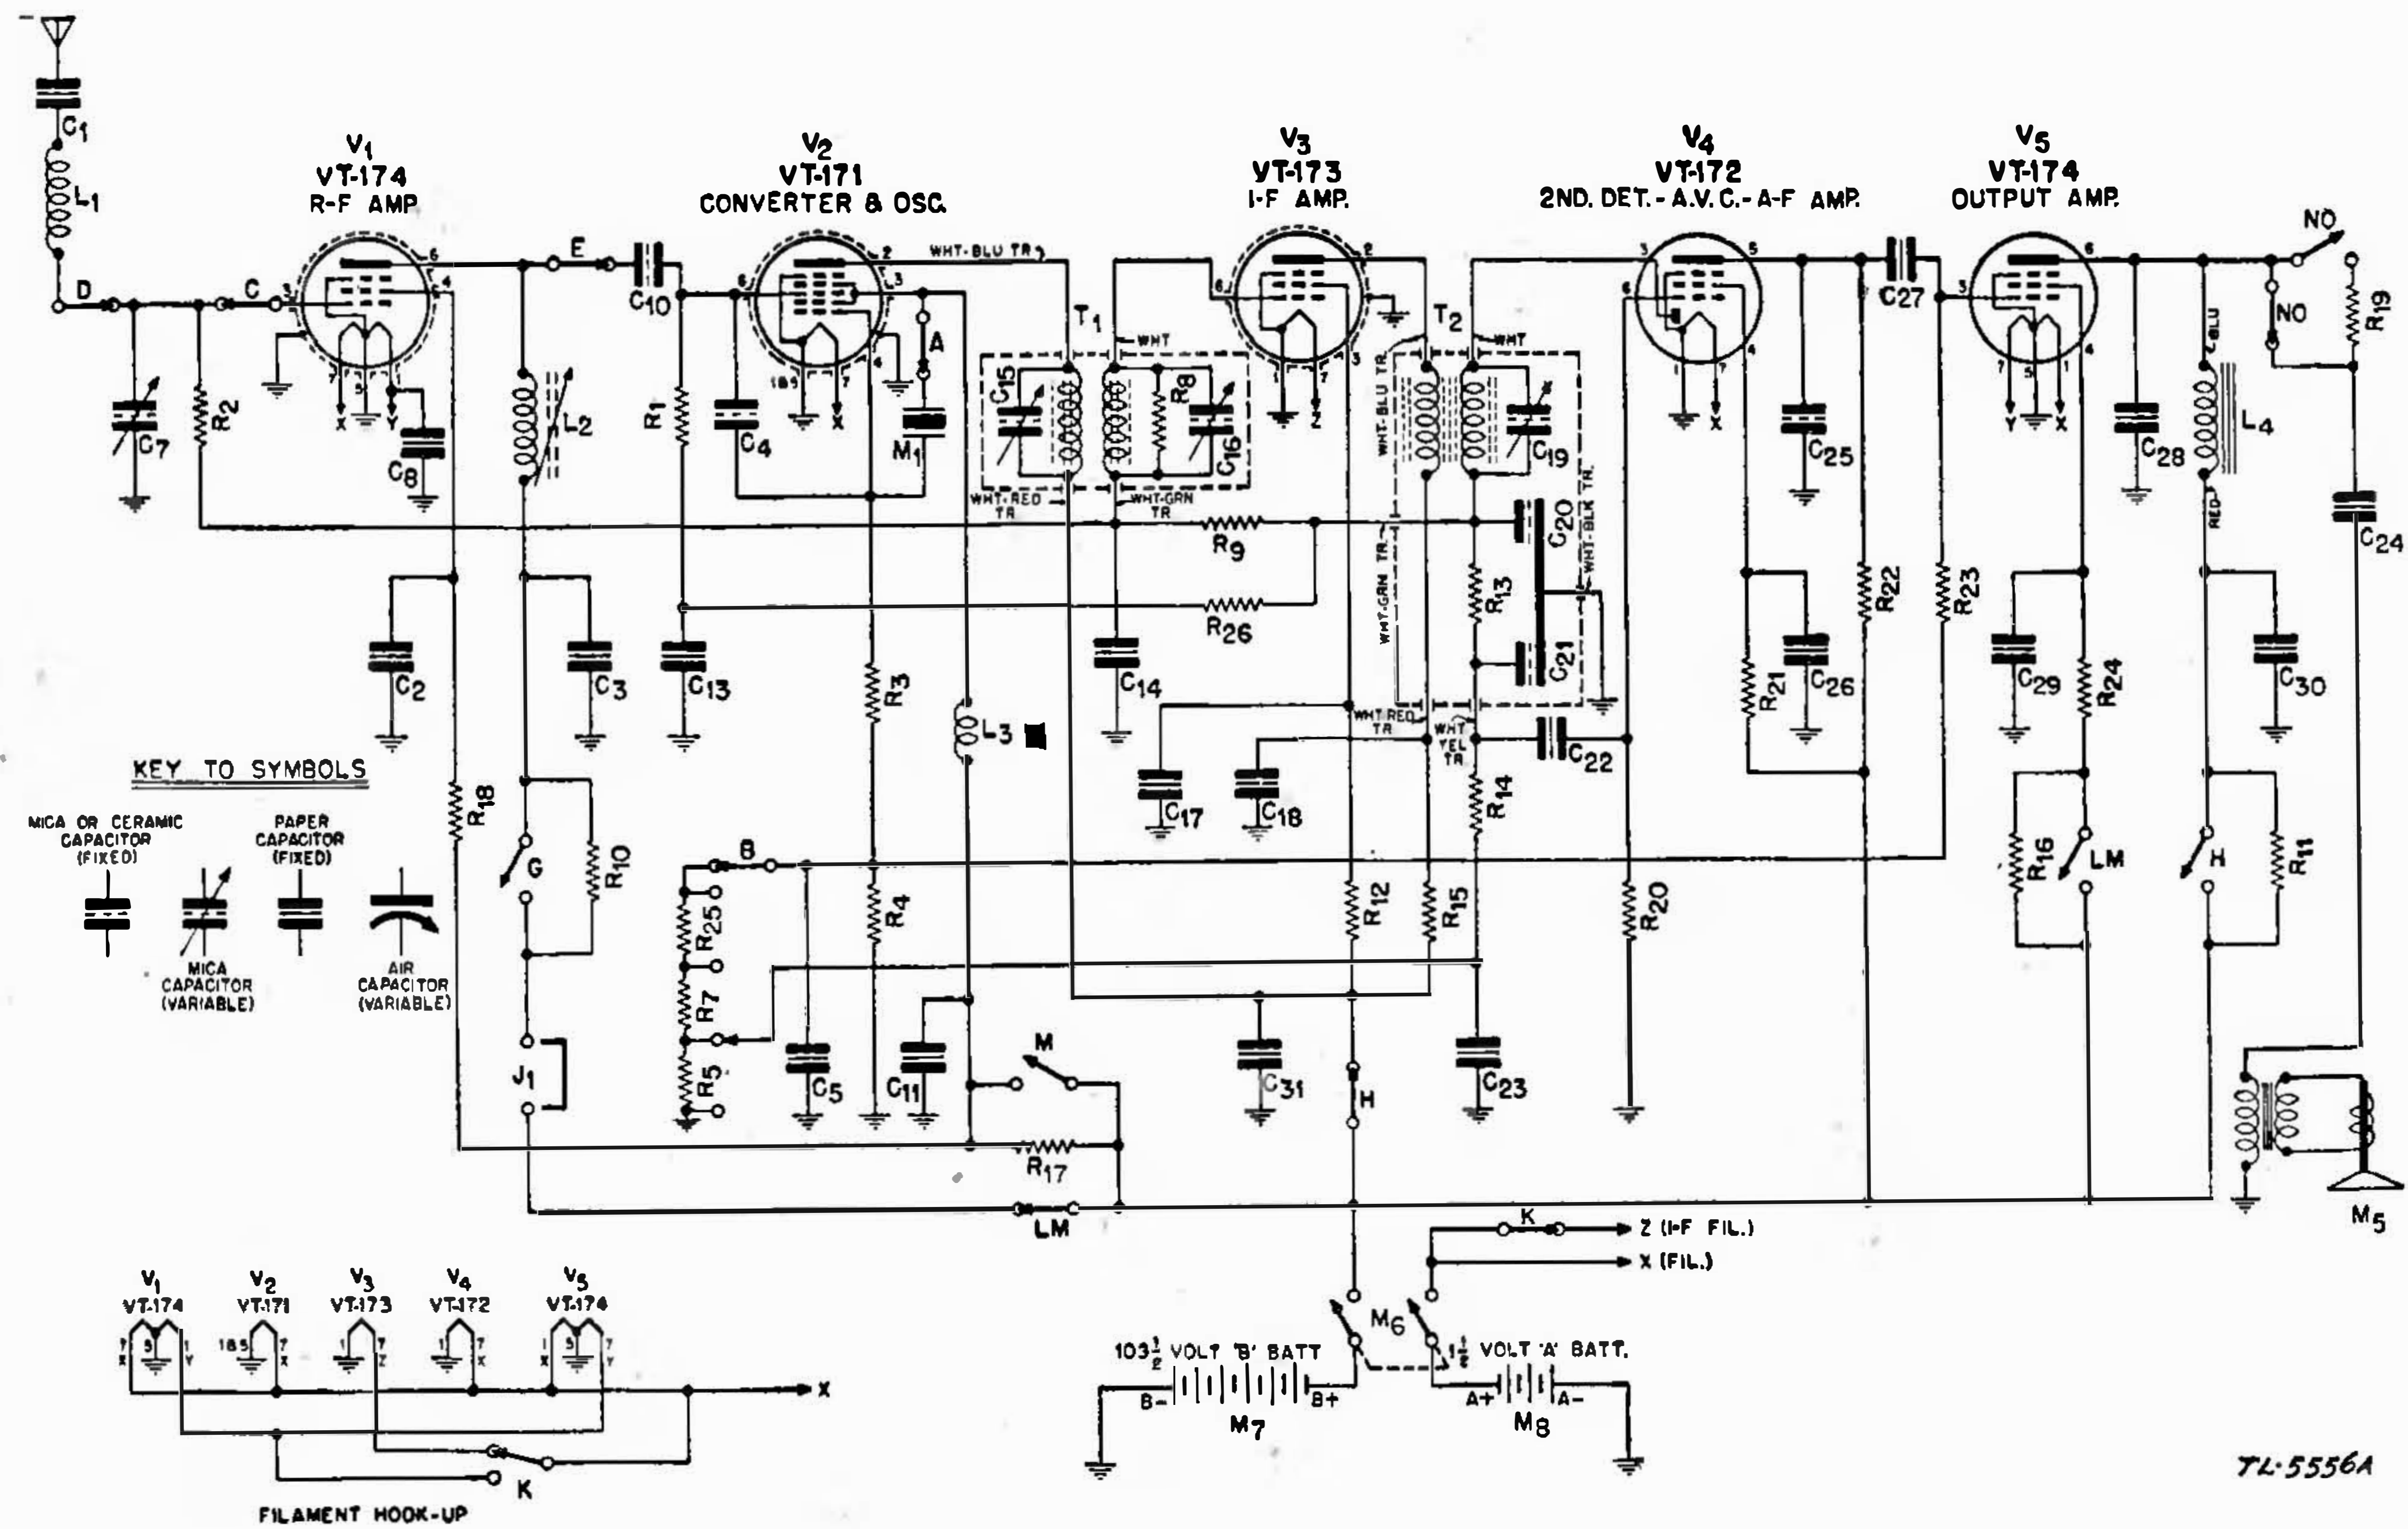

FIGURE 3.—Functional diagram of receiver.
**24. Receiver functioning.**—In the receive position, the set acts as a five-tube superheterodyne receiver consisting of one r-f amplifier stage, using a tube VT-174, one oscillator-mixer stage using a tube VT-171, one i-f amplifier stage using a tube VT-173, one diode detector and first audio amplifier stage using a tube VT-172, and one audio power output stage using a tube VT-174. The functional diagram of receiver is shown in figure 3.
**37. Change-over switch.**—The press-to-talk switch operates the change-over switch which makes the necessary circuit changes to convert the set from a receiver to a transmitter. The change-over switch is made up of 14 sections. Each section has a name which is marked on the celluloid insulating strip covering the change-over switch. For simplicity, however, each section has been designated by a letter of the alphabet on the schematic and functional drawings. (See figs. 3, 4, 16, and 17.)